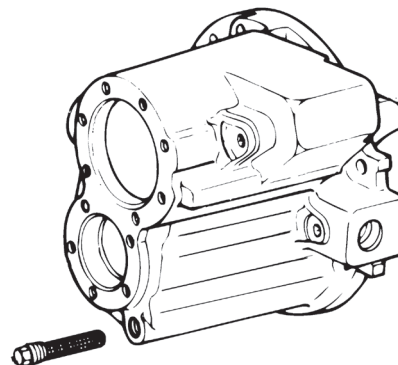

Figure 5.77
14. Install the oil filter assembly and plug in the suction line in front of the differential. Tighten the screen and plug assembly to 48 lb-ft (65 Nm). Figure 5.77.